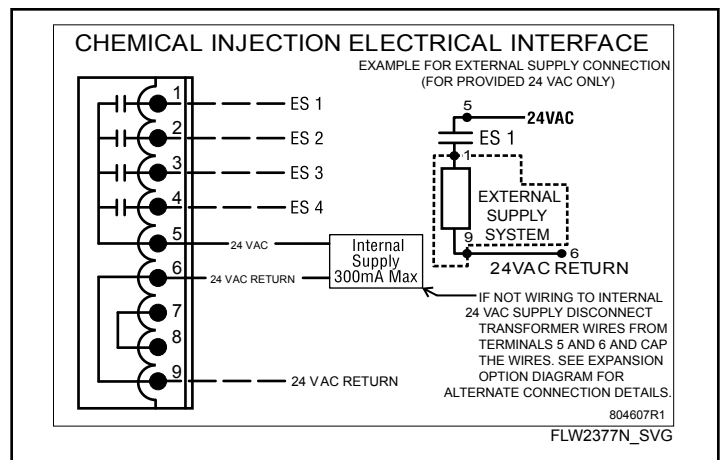

Figure 18
4. Refer to supply injection system instructions and label inside washer junction box cover (*Figure 18*) for electrical connection.